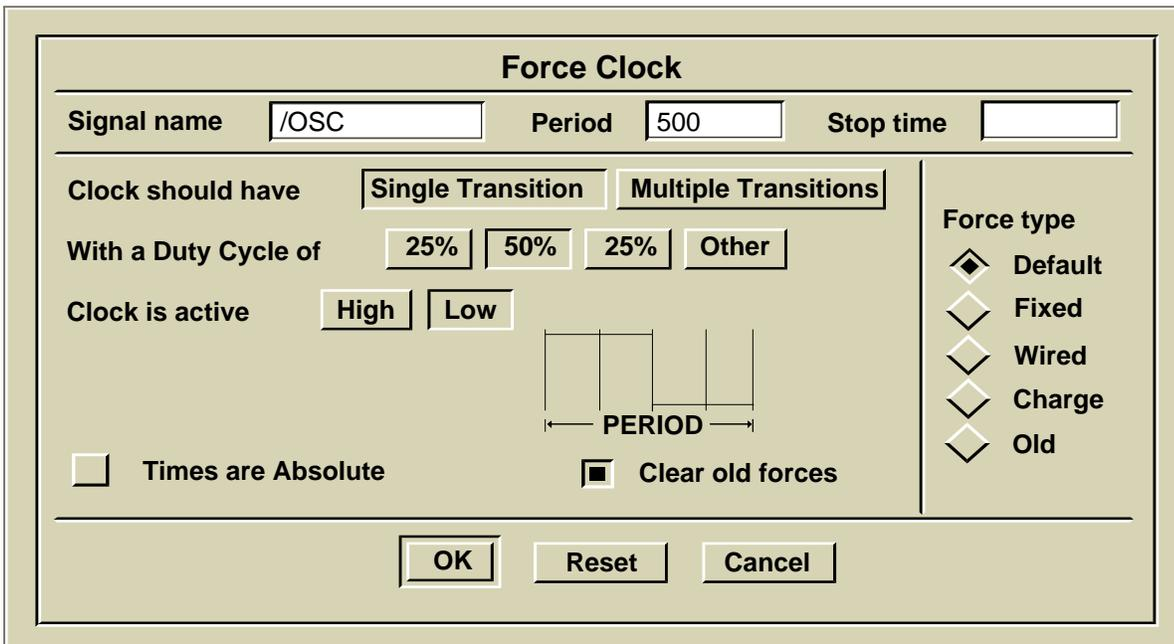

Figure 3-12. Force Clock Dialog Box
- b. Fill in the dialog box as shown in Figure 3-12.